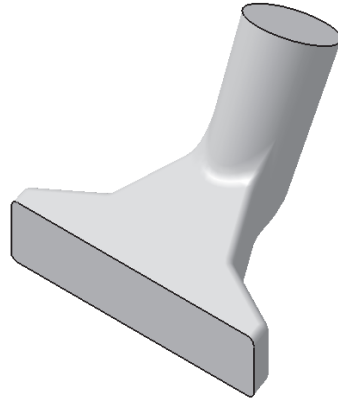

Figure 6-84 Model after creating the second fillet
5. Set the value of the **Radius** spinner to **3** and choose the **OK** button from the **Edge Fillet Definition** dialog box. Cancel this dialog box when it is displayed again. The model, after applying the fillet to the second set of edges, is shown in Figure 6-84.